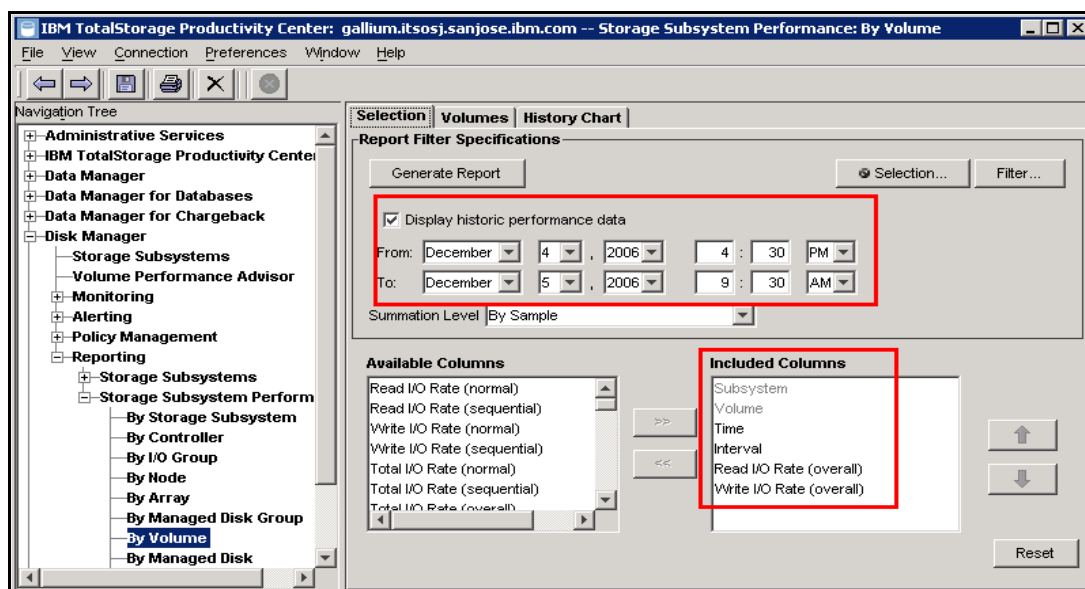

Figure 7-34 Selecting performance metrics and historical data
- On the Selection tab, move all performance metrics in the Included Columns into the Available Columns, except for read I/O rate (overall) and write I/O rate (overall) metrics. Check the Display historic performance data check box and select the start and end dates to generate a historical report, as shown in Figure 7-34.